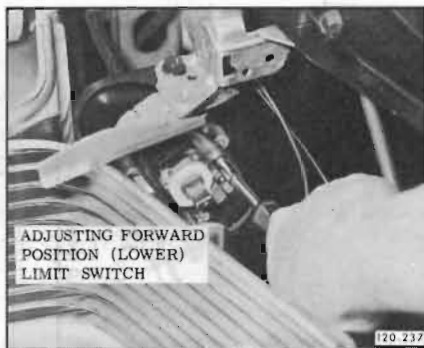

Figure 120-49—Adjusting Forward Position Limit Switch
3. Loosen 5/16 hex screw as shown in Figure 120-49 so that limit switch mounting plate can be moved. Move lower switch and mounting plate assembly toward cam until switch barely clicks and retighten screw.